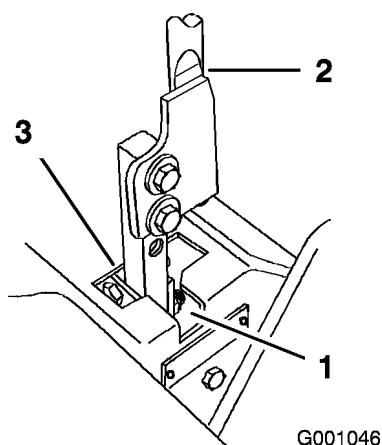

Figure 64
5. Move the lever to the neutral position but not locked (Figure 64).
6. Pull the lever back until the clevis pin (on arm below pivot shaft) contacts the end of the slot (just beginning to put pressure on the spring) (Figure 64).
7. Check where the control lever is relative to notch in console (Figure 64). It should be centered allowing lever to pivot outward to the neutral lock position.